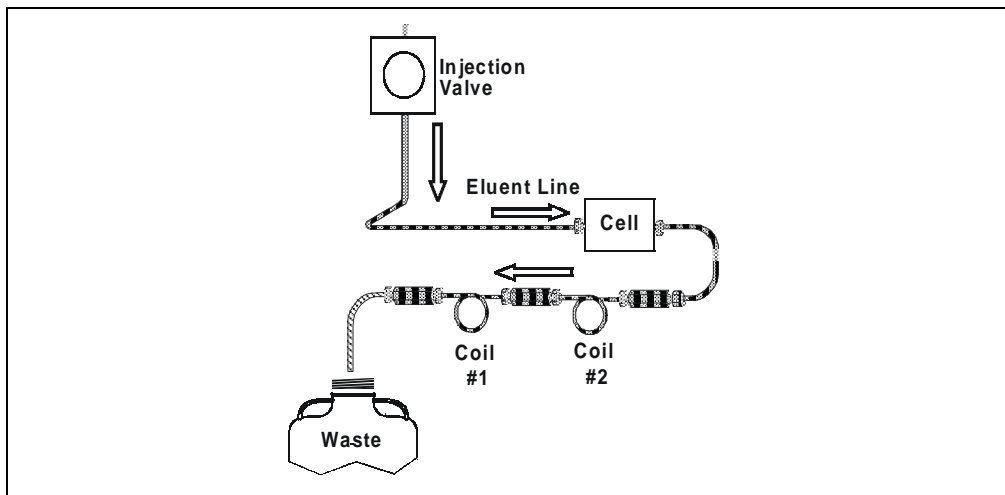

Figure 5-8. Measuring Backpressure: Step 3b
- b. Connect the eluent line from the injection valve directly to the detector cell inlet (see Figure 5-8). Turn on the pump. After 2 to 3 minutes of equilibration, record pressure P2.